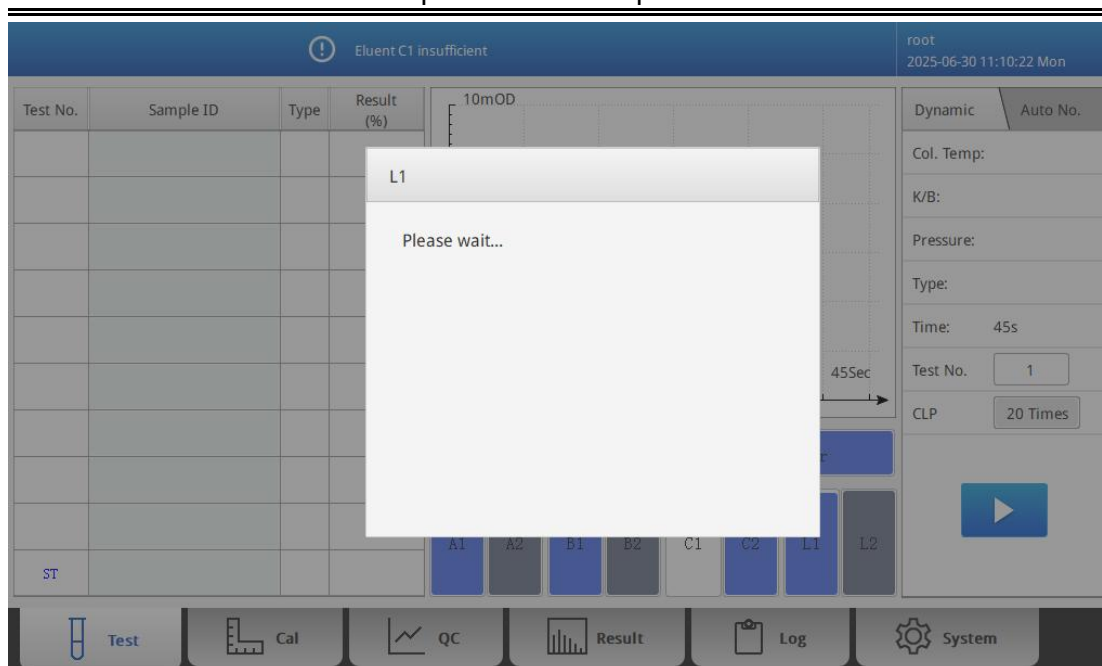

Fig. 5-14 After Clicking “Yes” Button
3) Enter manually the lot number on the label of the Hemolytic Agent L, then click **“Yes”** button. The **Fig. 5-14** is displayed.